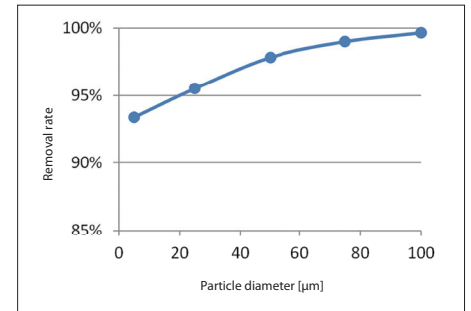

Figure 7: Variation of the sand removal rate depending on the particle diameter
- Figure 7 shows the variation of the sand removal rate depending on the particle diameter, for 5, 25, 50, 75, and 100 µm diameters. The smaller the particle diameter is, the lower the removal rate becomes.